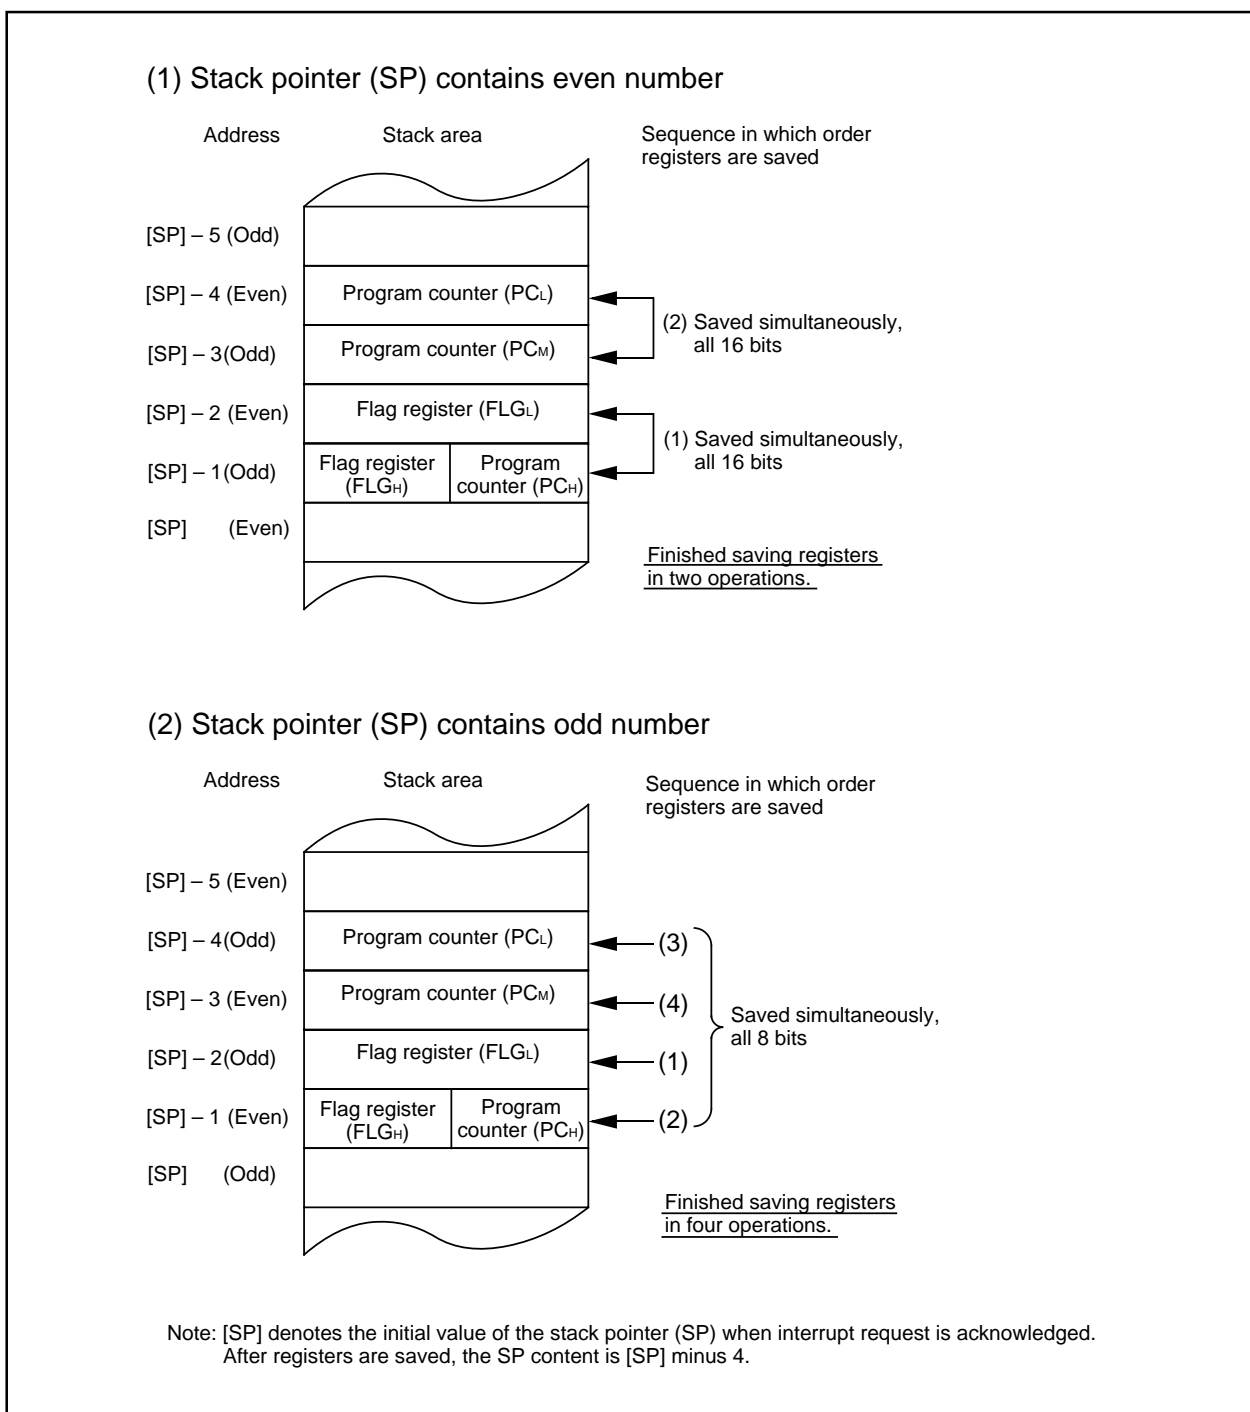

Figure 1.12.7. Operation of saving registers
The operation of saving registers carried out in the interrupt sequence is dependent on whether the content of the stack pointer (Note) , at the time of acceptance of an interrupt request, is even or odd. If the content of the stack pointer (Note) is even, the content of the flag register (FLG) and the content of the program counter (PC) are saved, 16 bits at a time. If odd, their contents are saved in two steps, 8 bits at a time. Figure 1.12.7 shows the operation of the saving registers.